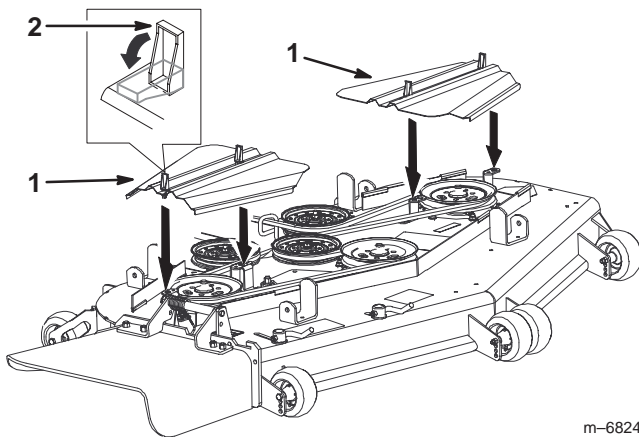

Figure 74
- Remove the belt covers (Fig. 74).
7. Install the belt covers and close the latches (Fig. 74).